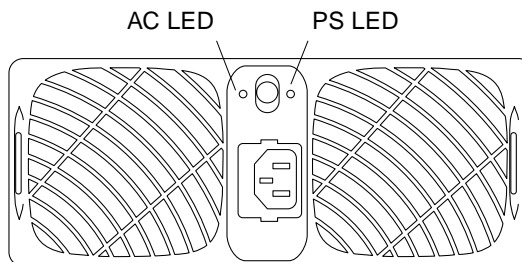

FIGURE 13-2 Power and Cooling Unit LEDs
Each power and cooling unit has an AC LED and a power supply (PS) LED. TABLE 13-2 lists the possible conditions of these LEDs and describes each state. See FIGURE 13-2.